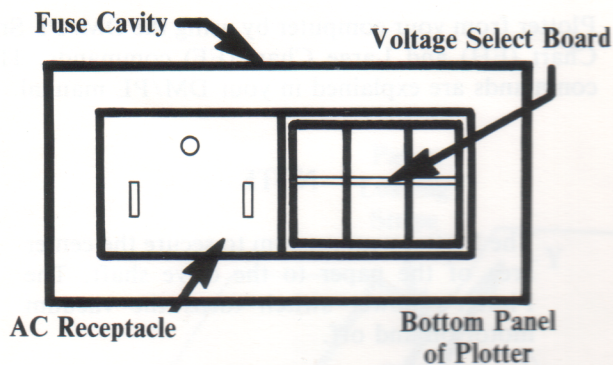

FIGURE 1-3
**DO NOT ATTACH THE POWER CORD** to the Plotter or to the AC wall outlet until you have determined the Plotter's operating voltage setting (100, 120, 220, or 240 VAC). To check the voltage setting, look through the bottom panel Fuse Cavity window at the number on the Voltage Select board (see Figure 1-3). This number will be either 100, 120, 220, or 240 and represents the Plotter's voltage setting. If the number does not match the rating of your AC outlet, turn to Section 4.2, "Operating Voltage Conversion," and change the voltage setting and fuse rating before powering up the Plotter.